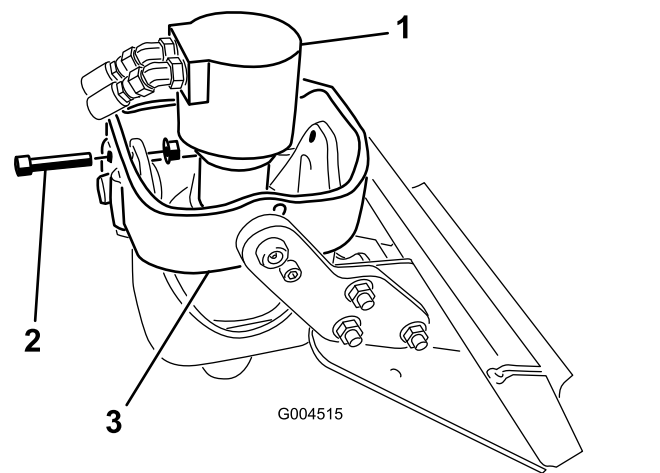

Figure 4
2. If you are installing an auger on the Model 22806 drive head, shut off the engine and remove the key. Position the drive head vertically, slide a bolt (1/2 x 2-1/2 inches) into the holes in the front cradle arms, and secure it lightly with a flange nut (1/2 inch) as shown in Figure 4.